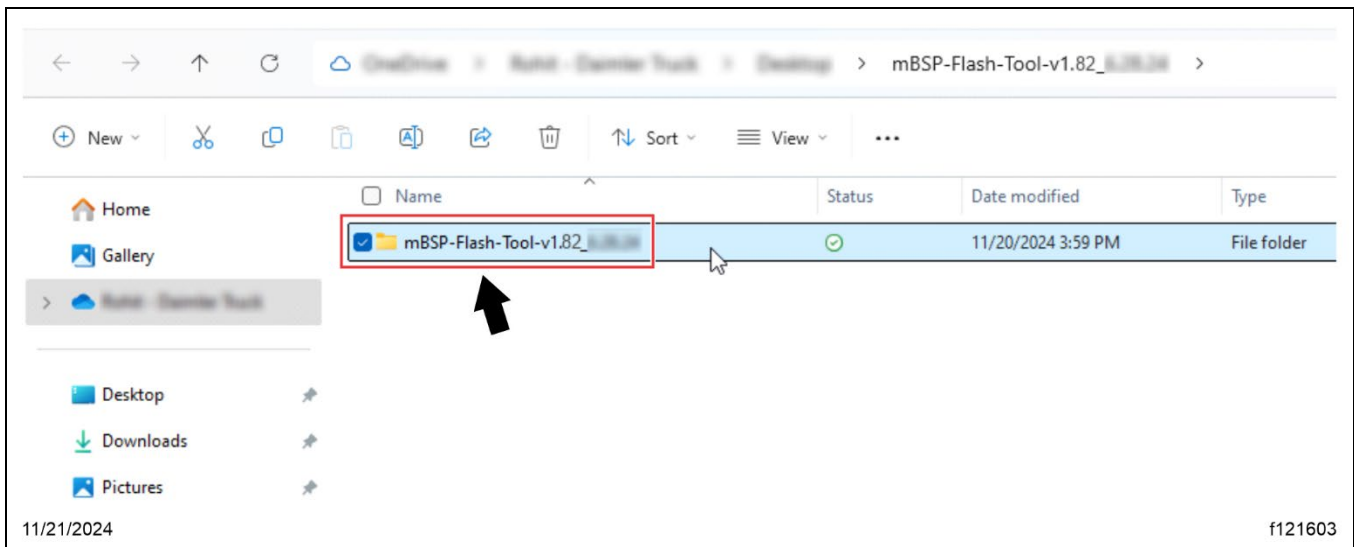

Fig. 27, Extracted Folder
6.3. A new File Explorer window opens. Double-click to open the 'mBSP-Flash-Tool-v1.82' folder. See Fig. 27.